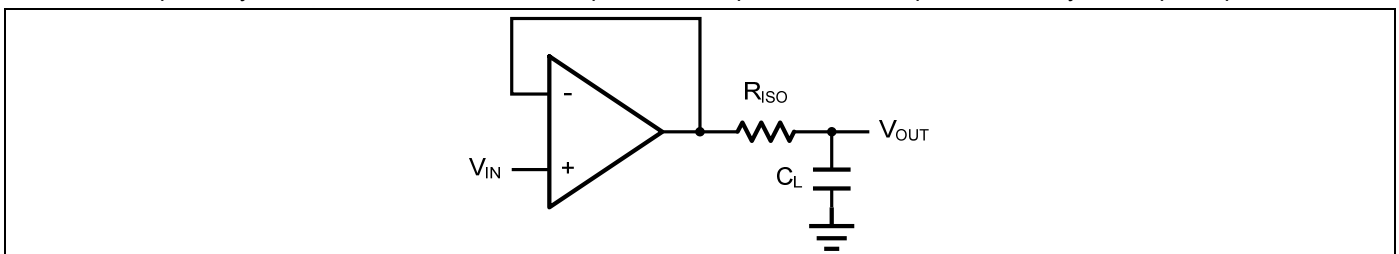
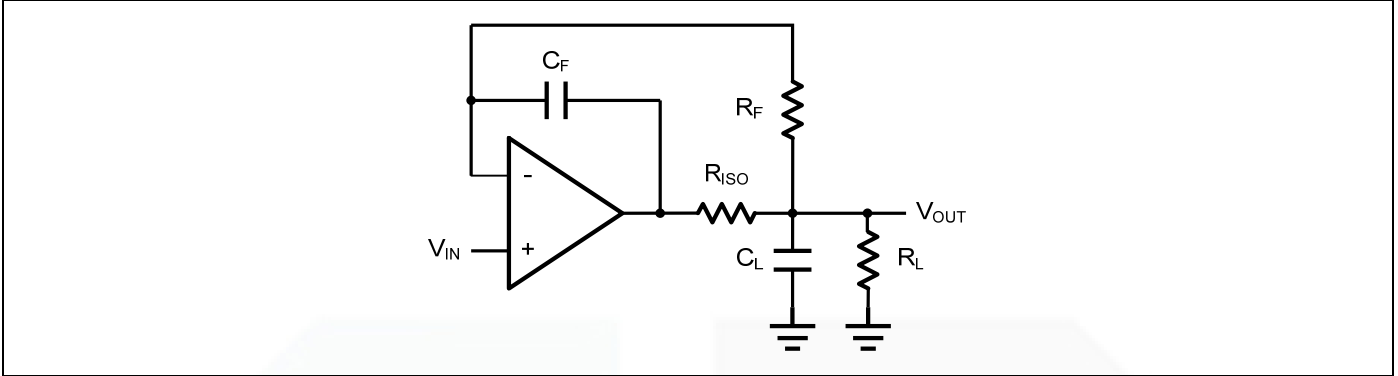

Figure 2. Indirectly Driving a Capacitive Load Using Isolation Resistor
Figure 3. Indirectly Driving a Capacitive Load with DC Accuracy
The GS853X family is optimized for bandwidth and speed, not for driving capacitive loads. Output capacitance will create a pole in the amplifier's feedback path, leading to excessive peaking and potential oscillation. If dealing with load capacitance is a requirement of the application, the two strategies to consider are (1) using a small resistor in series with the amplifier's output and the load capacitance and (2) reducing the bandwidth of the amplifier's feedback loop by increasing the overall noise gain. Figure 2. shows a unity gain follower using the series resistor strategy. The resistor isolates the output from the capacitance and, more importantly, creates a zero in the feedback path that compensates for the pole created by the output capacitance.
The circuit in Figure 3 is an improvement to the one in Figure 2.  $R_F$  provides the DC accuracy by feed-forward the  $V_{IN}$  to  $R_L$ .  $C_F$